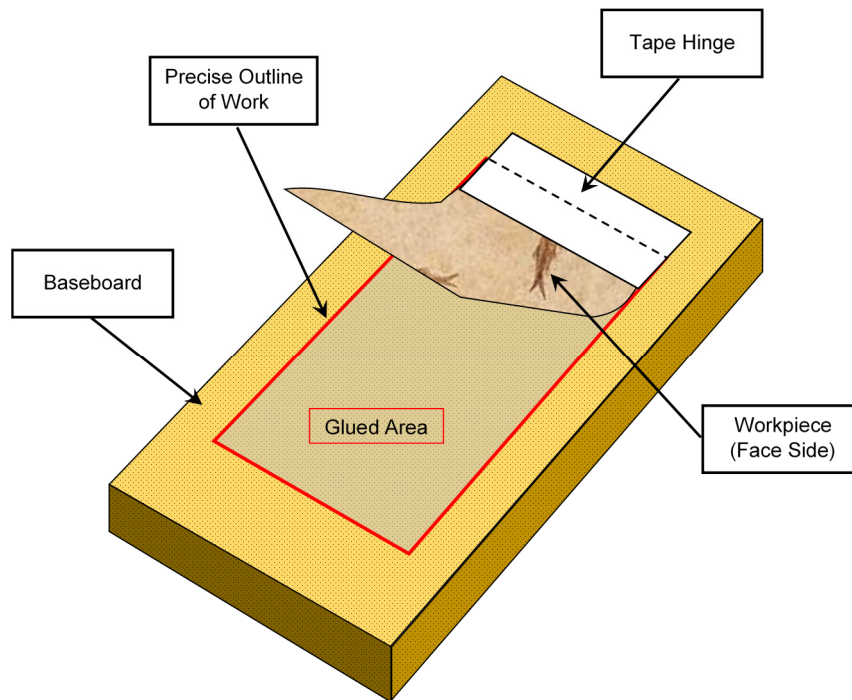

Figure 5-5: Laying the Workpiece
- 5.3.3. Carefully place the work on the board by hinging back. After checking the alignment, lightly smooth out from the hinge end to ensure that there are no air bubbles. See Figure 5-5 below